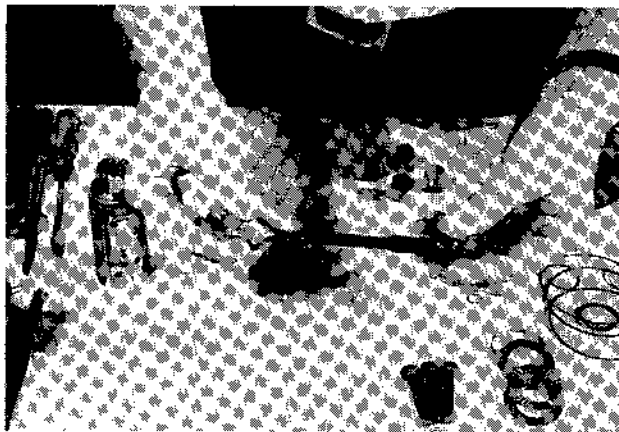

Figure 17
2. Figure 17 shows the position of the six centering springs in the CAS-1239 special tool.